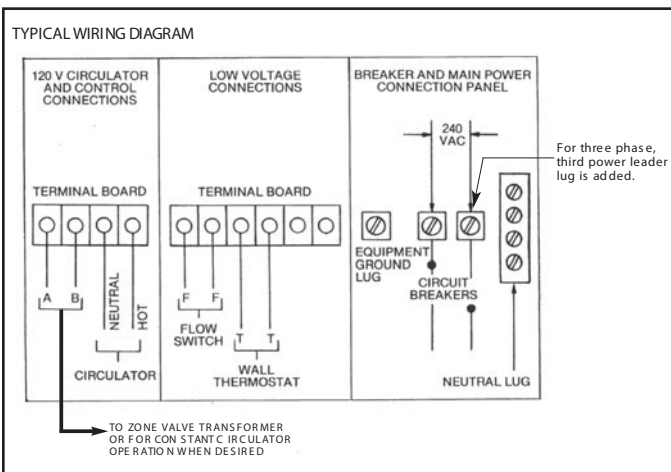
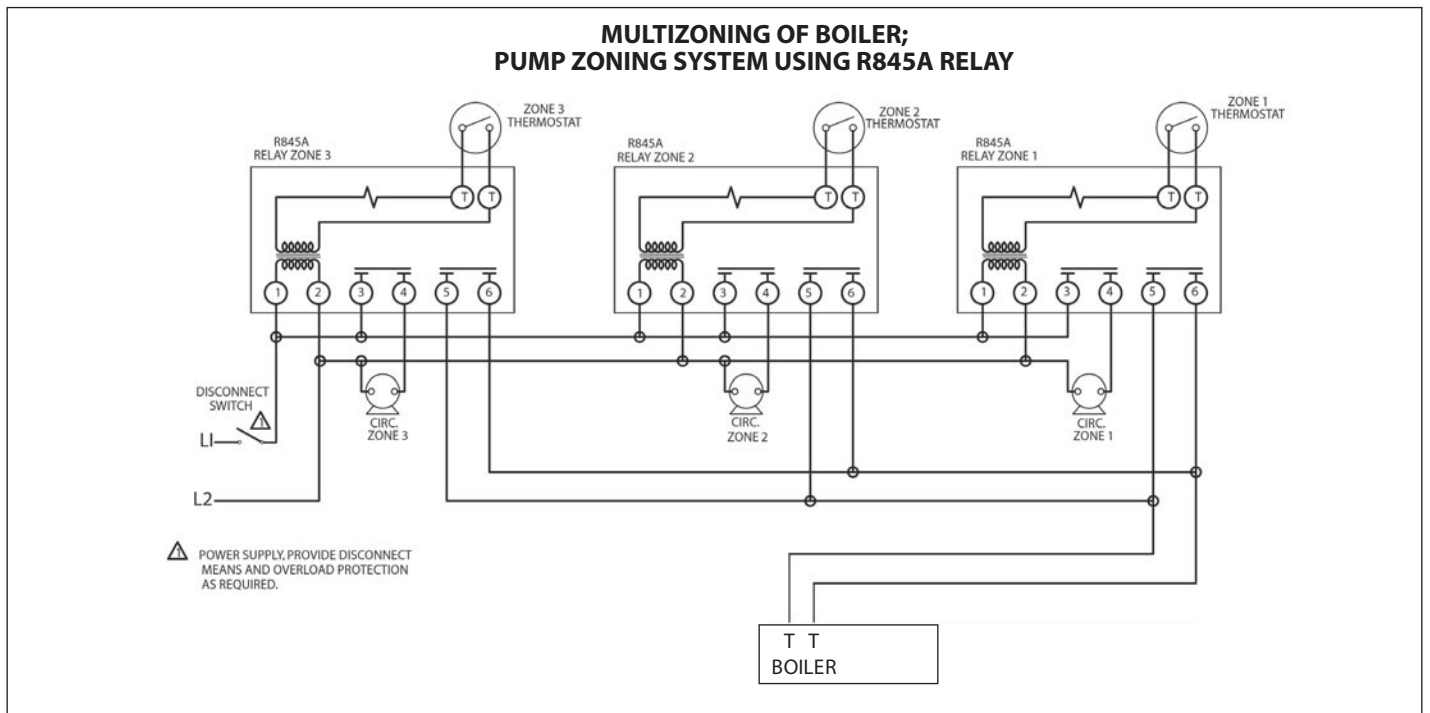

Figure 2. Typical Wiring Diagram for Models equipped with Circuit Breakers.
Figure 7. Multi-Zoning of boiler; pump zoning system using R845A relay.
All circuit breakers ahead of boiler must be OFF. Remove the Control Panel (left-hand front cover) by removing 5 screws from top, bottom and side flanges. The centre compartment contains a 24V control terminal board marked, "FF/TT" (see figure 2) Wire a 24V, two-wire heating thermostat or the auxiliary end switch terminals from zone valves (see Figure 7) to "TT". The "FF" terminals are for a flow switch. Do not connect the wires to the flow switch "FF" terminals until the by-pass flow adjustments are completed. Refer to "Bypass Flow Adjustment" (page 7) for wiring and adjustment procedures. The flow switch wires should be taped at the boiler until they are to be connected to "FF".
- A. All circuit breakers ahead of boiler must be OFF. Remove the Service Connection Panel (right hand front) cover by removing 5 screws from the top, bottom and side flanges (see wiring diagram on back of the Service Connection Panel and Figure 2).
Close bypass valve. Turn down all zone thermostats. Inspect all zone valves to be sure all are closed. Put a jumper on TT terminals. Close ALL panels and turn on the 15 AMP control circuit breaker ONLY. Be certain that the flow switch wires are not connected to the flow switch terminals and the ends of the wires are taped. Connect the ohmmeter or other continuity tester across the common terminal and the terminal that is normally open during NO FLOW. Slowly open bypass valve until continuity tester lights or ohmmeter kicks to zero: flow switch now has closed contacts, indicating required minimum bypass flow rate when piping circuits are shut off. Bypass valve should be locked at this position. Shut OFF ALL circuit breakers ahead of and at boiler and open CONTROL PANEL (left hand FRONT COVER). Remove jumper on "TT" terminals. Connect zone valve end switches (in parallel) to thermostat "TT" terminals. See figure 7 and wiring diagram on boiler. Connect flow switch wire to flow switch common and N.O. terminals and to the "FF" terminals in the boiler. Replace CONTROL PANEL COVER.